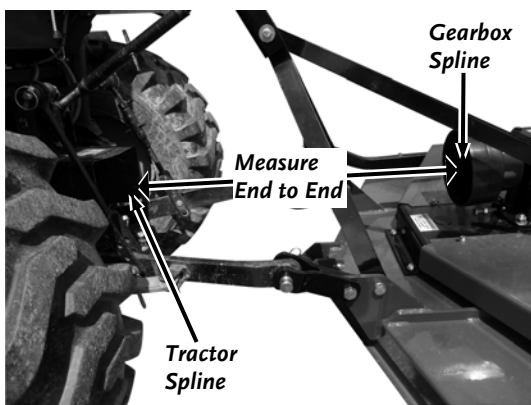

Figure 23
2. Raise the Mower up until the Tractor PTO Spline and Mower Gearbox Shaft are parallel with each other (**Figure 23**). Measure from the end of the Tractor Spline Shaft to the end of the Mower Gearbox Shaft and record this dimension in the "SHAFTS LEVEL" row of the table above.